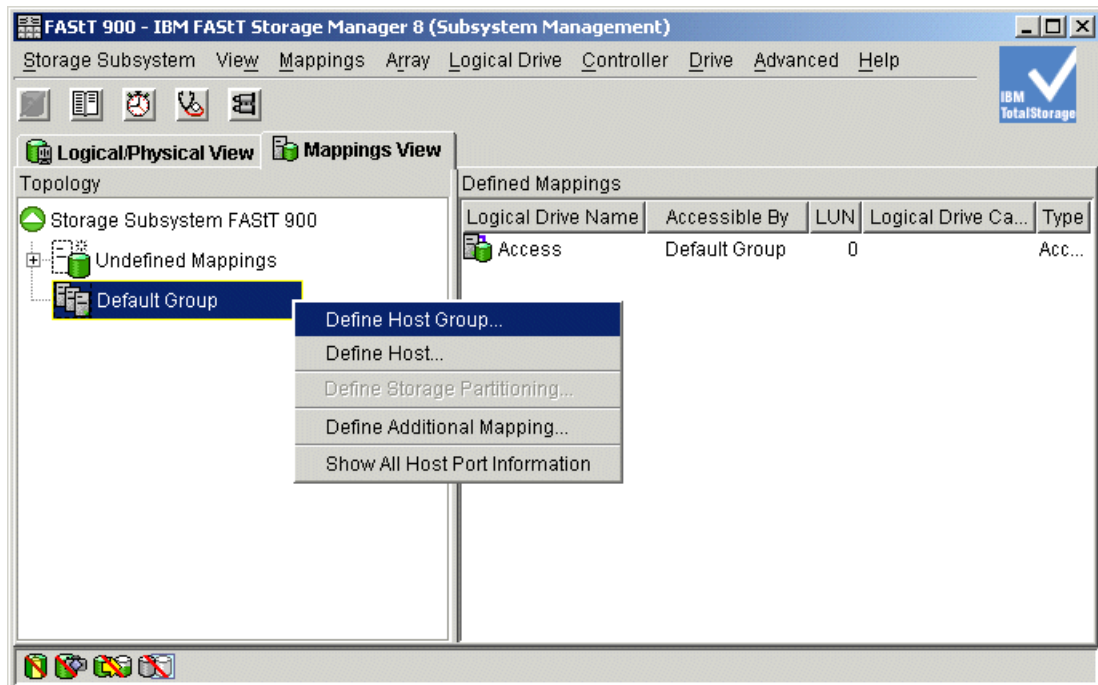

Figure 5-33 Define Host Group
3. Define the host groups. Highlight the **Default Group**, right-click, and choose **Define Host Group** as shown in Figure 5-33 on page 152.